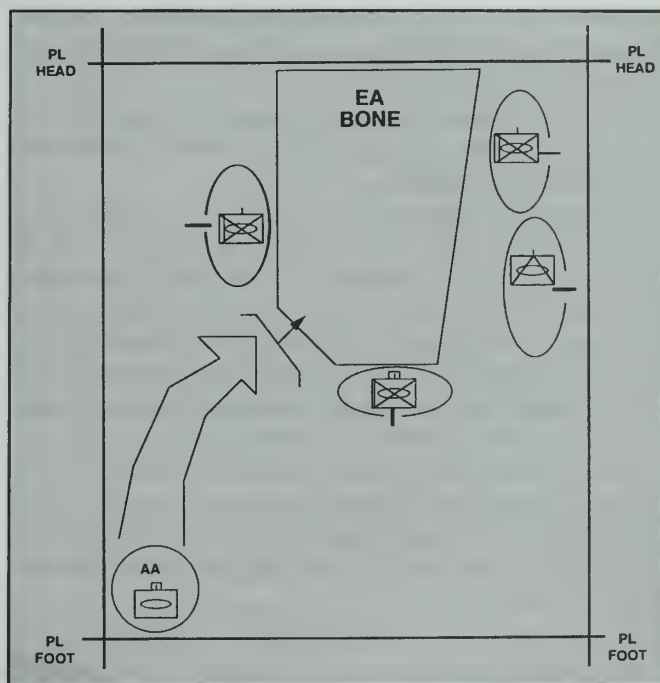

Figure 3. Echo Company in battle position.
- Assign the company a separate sector or battle position, depending on the defensive pattern chosen by the task force commander (Figure 3).